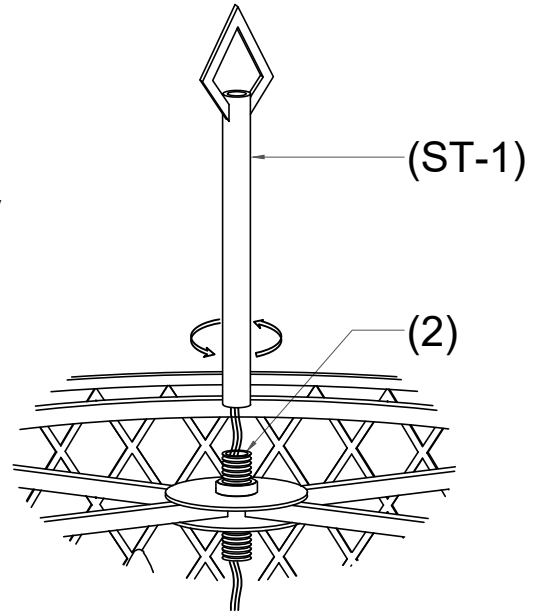

FIGURE 01
1. To begin assembly of your fixture, first slip Stem-1 (ST-1) along wire and thread onto threaded tube (2) and tighten. (see fig. 01)